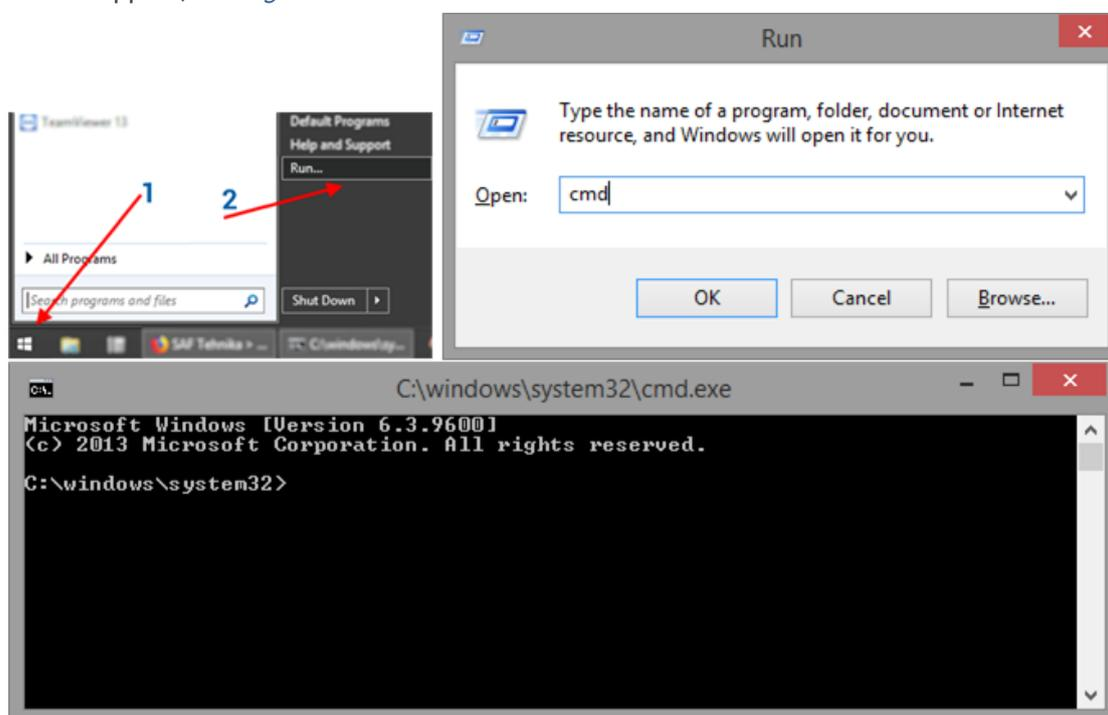

Figure 7-1 Windows cmd console
- 2) The application is started via the command prompt (on your Windows machine Start menu→Run→type “cmd”→press ENTER). The command-line console window should appear, see *Figure 7-1*